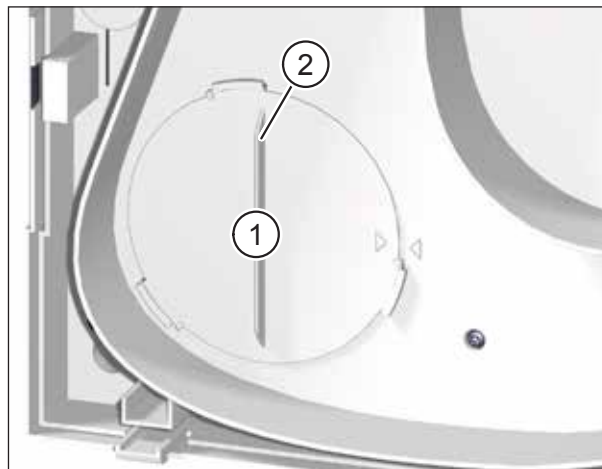

Fig. 20: Removing the outdoor air filter
- ▶ Turn the filter cover (item 1 in Fig. 20) using the hand grip (item 2 in Fig. 20) anti-clockwise until the filter cover is released from the retainers.
- ▶ Check the position of the filter cover. The hand grip must be vertical and the arrow on the filter cover must line up with the arrow for the locking position (see Fig. 20 on page 38).